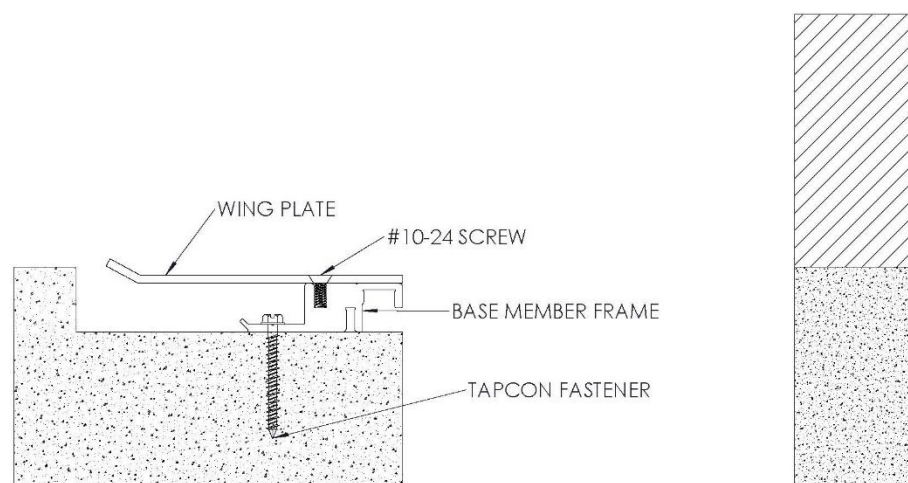

FIGURE 10
3. Reinstall the wing plate to the base member frame with the #10-24 screw. *Note: This step not necessary on the 2" & 4" sizes. See Figure 10*